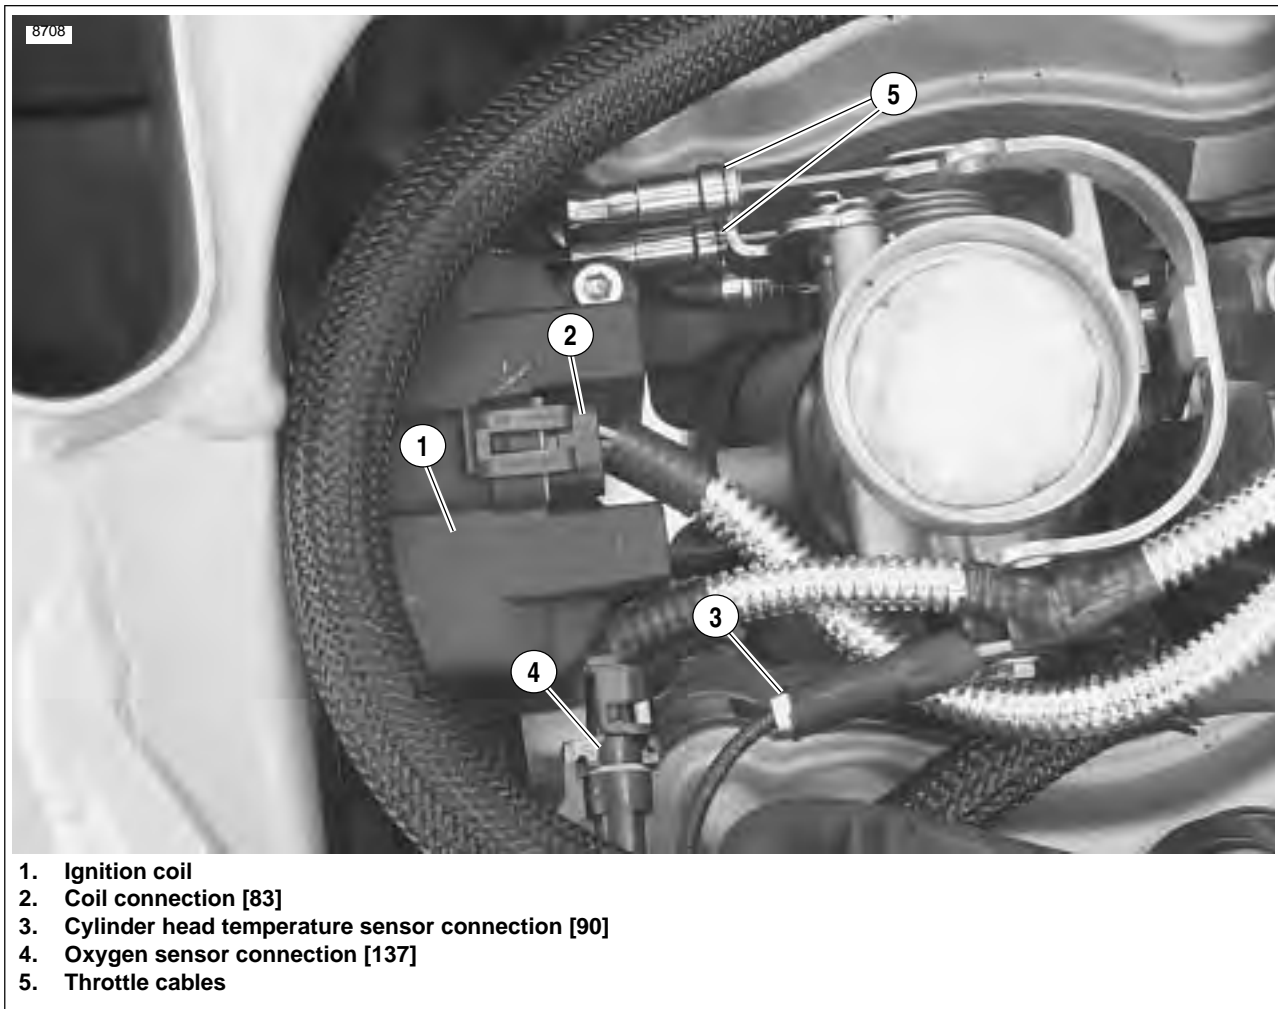

Figure 3-17. Electrical Connections and Throttle Cables
9. See Figure 3-17. Disconnect the ignition coil (2) and remove.